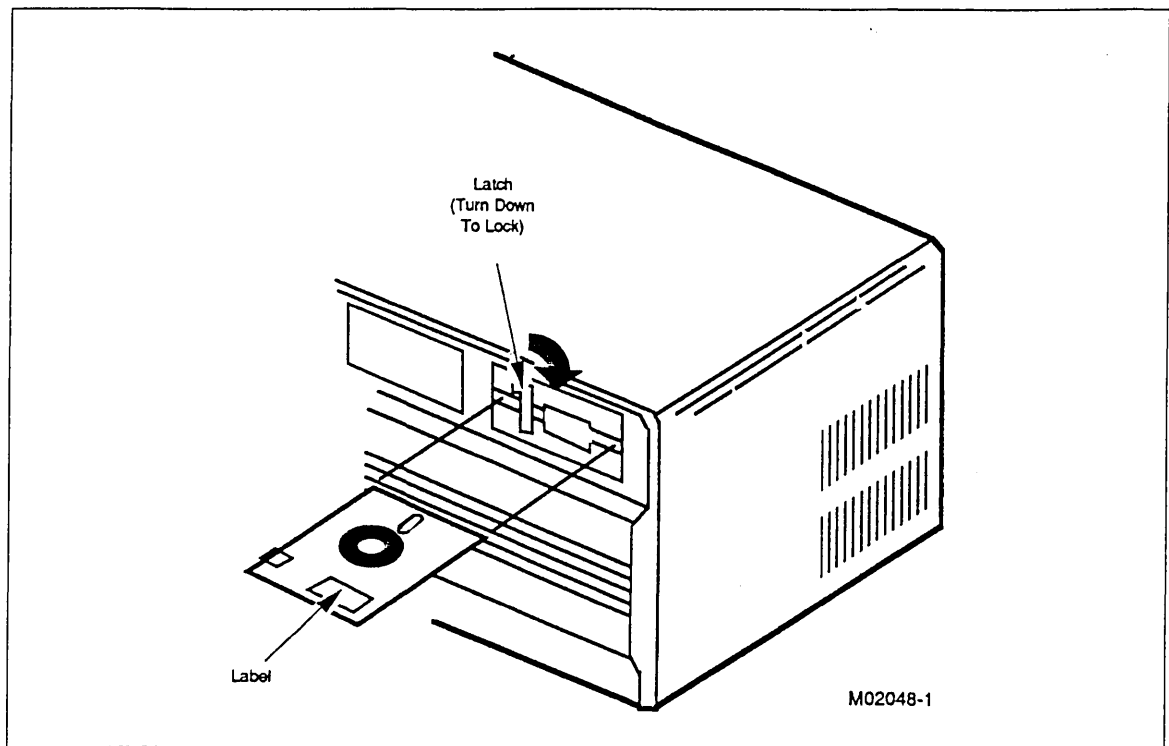

Figure 6-6. Floppy Disk Drive (CC598-A/B)
3. Insert the disk labeled CC598 Support Package into the floppy disk drive (figure 6-6 or 6-7).